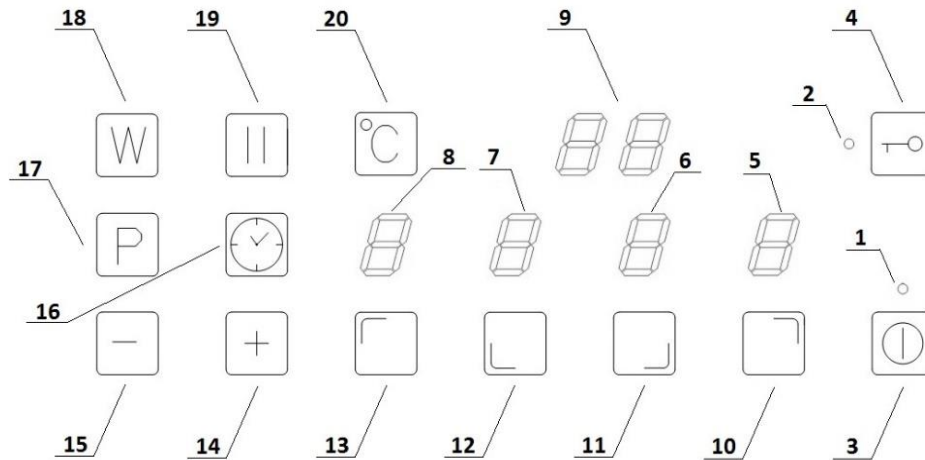

Fig. 6 Control panel – item 2. from Figure 1.
- once connected to electrical power, the hob will start its calibration mode. The timer section of the display will show "00" and horizontal signs will appear above the burners' sensors. Once the markings above the sensor of the upper right burner disappear, a blinking calibration symbol will appear. When this disappears, the hob enters standby mode and is ready for use. This is signalled by an indicator light (**item 1, Fig. 6**). Stepper motors can be heard during calibration (knocking).
To start the hob, after completing the initial steps from point 4.1., touch the main sensor switch (item 3, Fig. 6) with your finger. The switch indicator goes out (item 1, Fig. 6) and the hob is ready to accept commands. All four field indicators (item 5, 6, 7, 8 in Fig. 6) show "0000" for 6 seconds. If no further action is taken, after that time the hob goes into standby and indicators turn off, with only the switch sensor remaining lit. The switch can be used to turn off the hob at any time, even with the lock activated.
To take advantage of the function, touch the sensor of any working burner (items 10, 11, 12, 13, Fig. 6) and then the timer function sensor (item 16, Fig. 6).
Above the row of burner power displays (items 5, 6, 7, 8, Fig. 6) a function display will appear (item 9, Fig. 6), which will show "**00**". In 6 seconds, set a time in minutes using the + and - sensors (items 14 and 15, Fig. 6) within a range from 1 to 99. After this time the burner will be turned off. When the timer function is on, the burner display will be marked with a blinking dot in the lower right corner of the display (items 5, 6, 7, 8).
At least one burner of the hob must be working. When you touch the pause sensor (item 19, Fig. 6) markings will light up in the indicator locations *//* and the operation of the hob will be suspended for up to 15 minutes for all cooking zones. When the pause function is on, it is only possible to use control panel lock sensors (item 4, Fig. 6) and on/off sensors of the hob (item 3, Fig. 6)
The pause function is turned off by touching the function sensor (item 19, Fig. 6). At that moment the indicators of previous settings will light up again and the hob will continue to operate.
Touch the sensor (key) with your finger **item 4 Fig. 6**. Pressing and holding it for 5 seconds will cause the **controller to lock**, the indicator diode to switch on and an extended audio signal to sound.
Touch the sensor with your finger **item 4 Fig. 6** and hold for 5 seconds, the indicator diode **item 2 Fig. 6** switches off, the hob controller is unlocked and an audio signal can be heard.